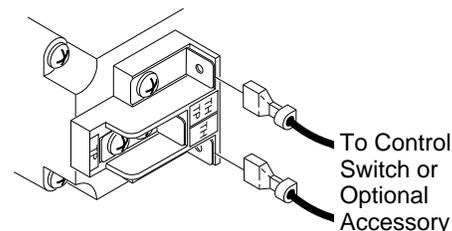

Figure 34 - Control Valve Terminals
1. Connect one terminal of 25 ft. wire for the wall switch to the TPTH terminal on the valve. Connect remaining wire terminal to the TH terminal on the valve. Make sure that the wire terminals are in the positions on the unit as pictured in Figure 34. If wires are not connected as shown, the switch will not work.
3. Connect one terminal of the wire for the wall thermostat to the THTP terminal on the valve. Connect remaining wire terminal to the TH terminal on the valve. Make sure that the wire terminals are in the positions on the unit as pictured in Figure 34, page 15. If wires are not connected as shown the thermostat will not work.
2. Disconnect wires from THTP and TH on control valve that lead to the switch (see Figure 34, page 15). Discard switch plate, screws, and nuts.
6. Connect the wires from the receiver to the valve at TH and THTP (see Figure 34, page 15).